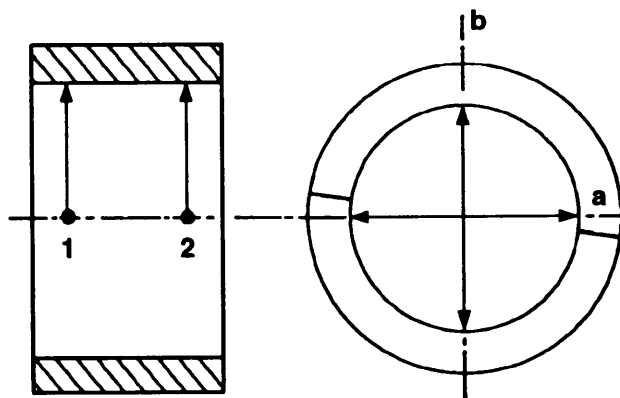

Figure 6-14. Checking Pre-loading of Engine Bearing Bores.
- (1) Position bearing caps, making sure that their identification numbers match with those stamped in crankcase. Torque down bolts in accordance with appendix G.
- (2) Using inside micrometer, measure each main bearing base at points 1 and 2 in plane "a", then in the same manner in plane "b" offset by 90 degrees (see figure 6-14), in order to determine any contraction, out-of-roundness or conicity. See table 6-1 for wear limits.
- (3) Install new bearings.
- (4) Position bearing cap, then preload and torque according to instructions given in Table 6-1.
- (5) Using inside micrometer, measure each bearing bore and compare measurements to table 6-1.